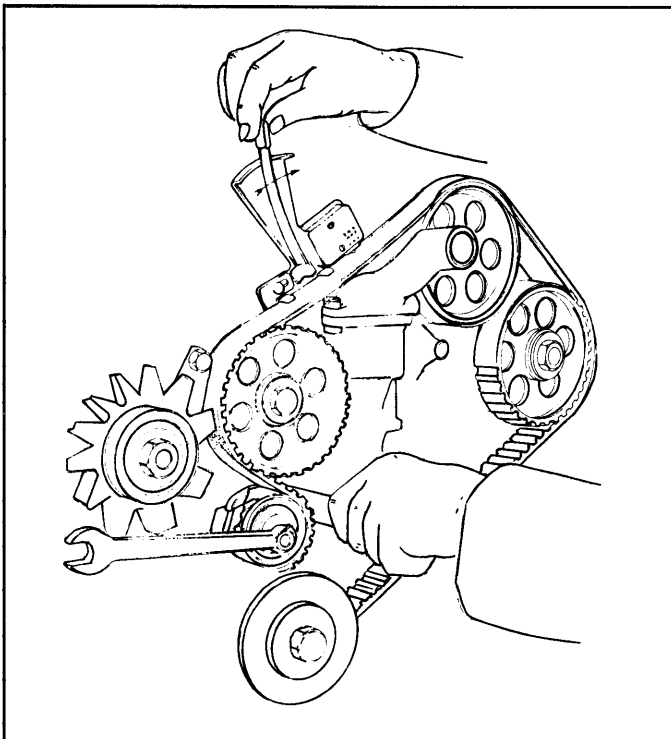

Fig. 1: Camshaft Drive Belt Tension Adjustment
- 2) Loosen lock nut securing belt tension pulley. Using Wrench (PT 0026) on large nut behind pulley, turn nut counterclockwise to loosen cam drive belt. Remove camshaft drive belt. See Fig. 1.